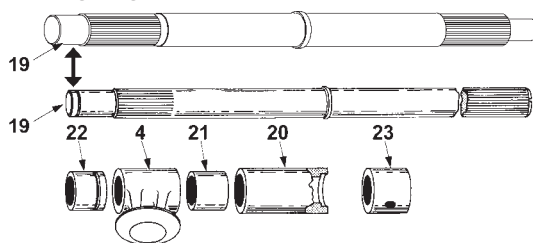

Figure 9
- Place the valve body (1) on a flat surface so that the seat is down.
- Coat the lower guide bushing (22) with recommended lubricant and insert into the body.
Note: The groove in the guide bushing (22) must be towards the body center. Refer to Figure 9 for correct assembly sequence. If the shaft (19) is the previous design it may have a circular groove, if so, install the retaining ring (18).